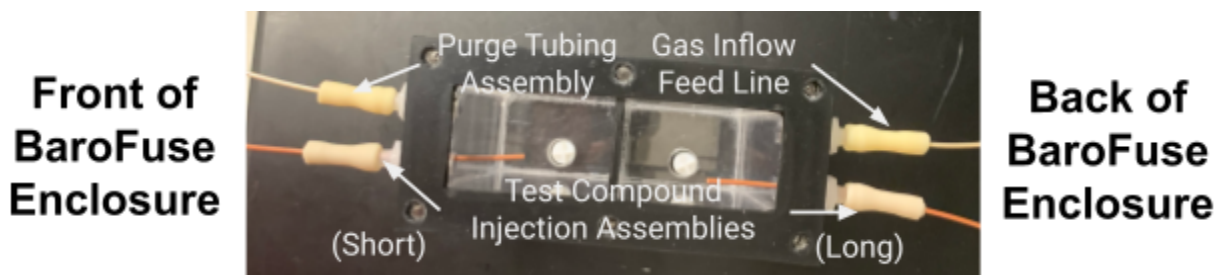

Fig. C2. Test Compound Injection Tubing Assembly and Purge Tubing Assembly attached to ports on the MRM.
4. Then attach the Gas Inflow Feed Line and Purge Tubing Assembly to the back and front vacant ports respectively (see Fig. C2).